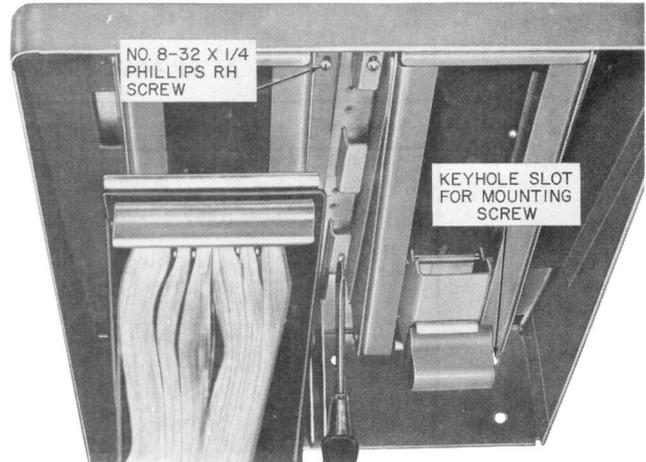

Fig. 5—Installation of KS-20029 Directory Shelf
To facilitate installation, remove four No. 8-32 by 1/4 Phillips RH screws (Fig. 5) from each directory hanger assembly and remove the hanger assembly from shelf. Retain screws.
- (1) Measure 43-1/2 inches from floor and mark location for top edge of shelf.
- (2) Hold shelf in position, ensure that it is level, and mark location for two mounting screws at the keyhole slots.
- (3) Using a No. 25 drill, drill the two marked holes.
- (4) Insert two No. 10 by 3/4 RH wood screws (order separately) in the two holes.
- (5) Hang shelf on the two screws temporarily and mark location for remaining four mounting screws.
- (6) Remove shelf and drill the four holes using No. 25 drill.
- (7) Hang shelf, insert and tighten four No. 10 by 3/4 RH wood screws (order separately).
- (8) Tighten the two screws at the keyhole slots.
- (9) Install the directory hanger assembly using the four No. 8-32 by 1/4 Phillips RH screws previously retained (Fig. 5).